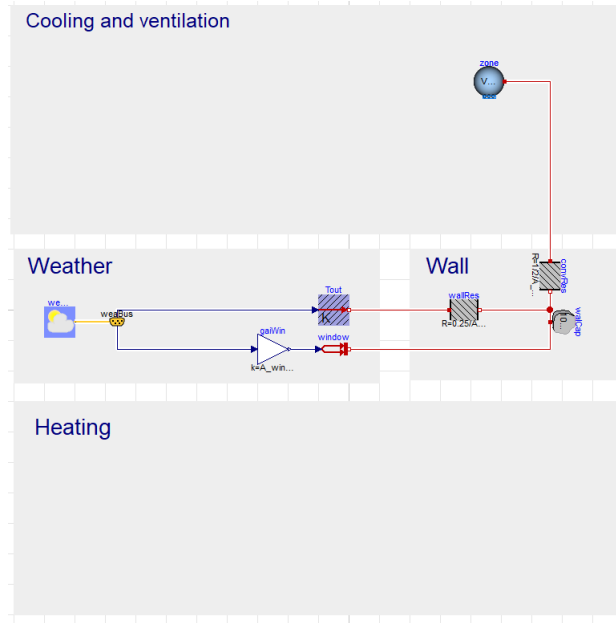

Figure 4: Simple house model with a wall, a window, and an air model.
**Connection instructions** The `MixingVolume` ‘*Medium*’ parameter contains information about the type of fluid and its properties that should be modelled by the `MixingVolume`. Set 3 its value to ‘*MediumAir*’, which is declared in the template. Your model should now look like Figure 4.